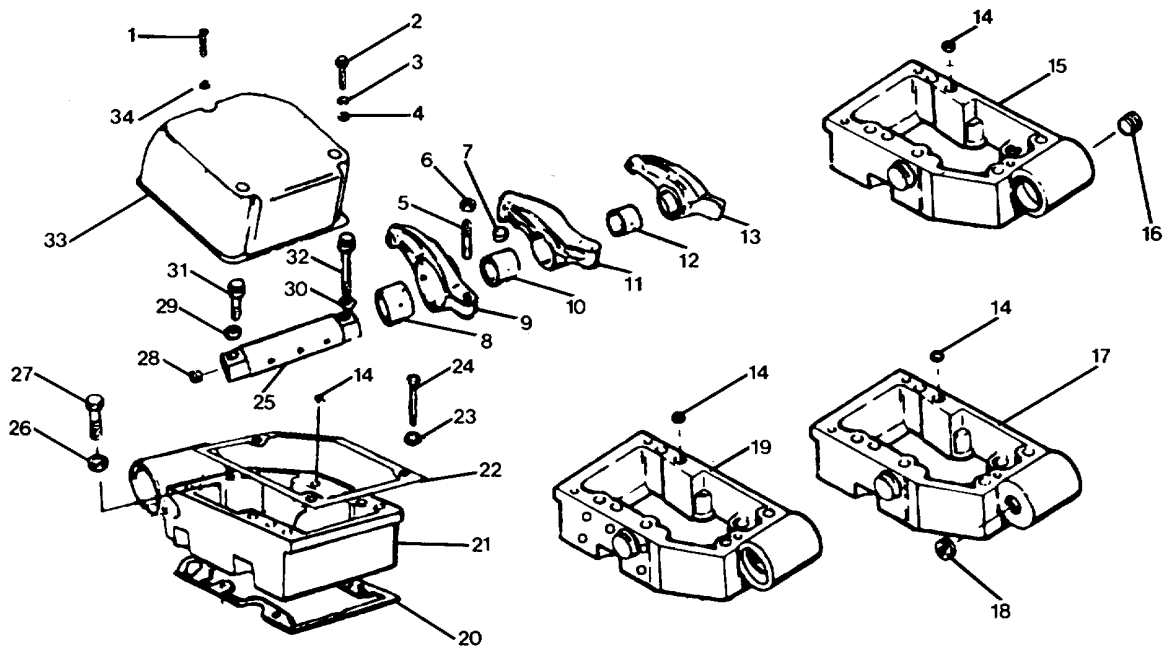

FIGURE 2-28. Rocker Lever Housing Group/Rocker Housing Cover.
- (1) Remove the assembled washer bolt (1, FIG. 2-28) and flat washer (34).
- (2) Remove two hexagon head capscrews (2), lockwashers (3) and flat washers (4).
- (3) Remove dowel ring (14, FIG. 2-28) and pipe plugs (16 and 18) where installed.
- (4) Remove six hexagon head capscrews (24 and 27) and flat washers (26).
- a. Clean the rocker lever housing (33, FIG. 2-28) and inspect as follows:
- (1) Visually inspect the housing for cracks or damage, and replace if necessary.
- (2) Visually inspect the capscrew holes in the housing for damaged threads.
- (3) Visually inspect the rocker lever shaft bore. Remove any burns or sharp edges with emery cloth.
- b. Clean the rocker lever shafts (25) and inspect as follows:
- (3) Check the ball end of rocker lever adjusting screw (5, FIG. 2-28) for damage.
- (4) Replace the adjusting screw if the ball end is out of round or flat at the bottom.
- (1) Install rocker lever housing gasket (20, FIG. 2-28) on cylinder head.
- (2) Position housing (15, 17, 19 or 21) on cylinder head.
- (4) Install dowel ring (14, FIG. 2-28) and pipe plugs (16 and 18) if required.
The engine intake poppet valve rocker arm (13, FIG. 2-28) must have a blind rivet installed in the oil drilling. The exhaust lever (9) must not have a blind rivet in the oil drilling. The three oil drillings on the shaft (25) that have the same centerline must be toward the end of the rocker lever that contains the adjusting screw. The plug in the shaft main oil drilling must be nearest to the exhaust lever.
- (2) Position straight shaft (25, FIG. 2-28) and rocker levers (9, 11 and 13) with sleeve bushings (8, 10 and 12) on housing (21).
- (3) Install two flat washers (29 and 30) and hexagon head capscrews (31 and 32). Do not tighten.